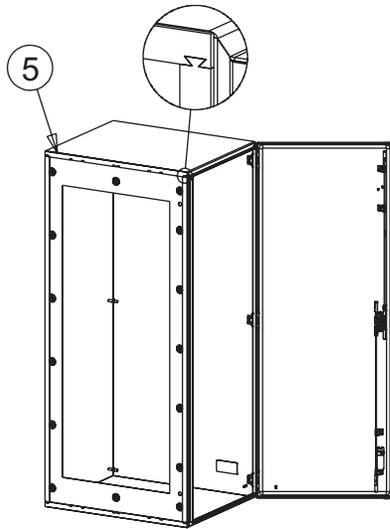
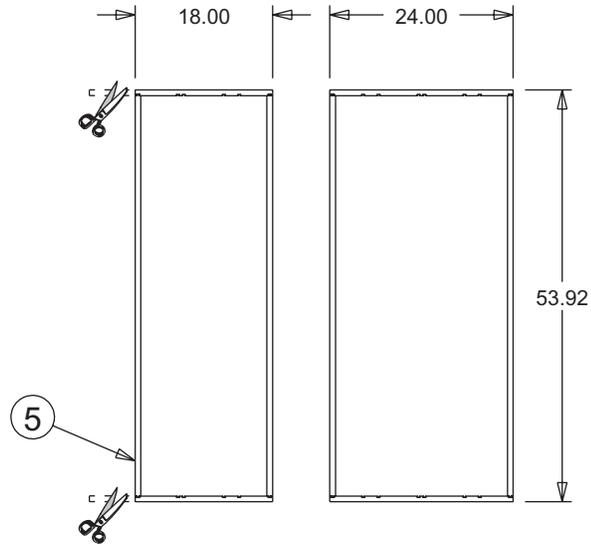

Figure 1A
Figure 1B
3. Install the gasket per Figure 1A, engaging the dove tail joints, and trim off any excess, Refer to Figure 1B for the correct enclosure depth configuration.